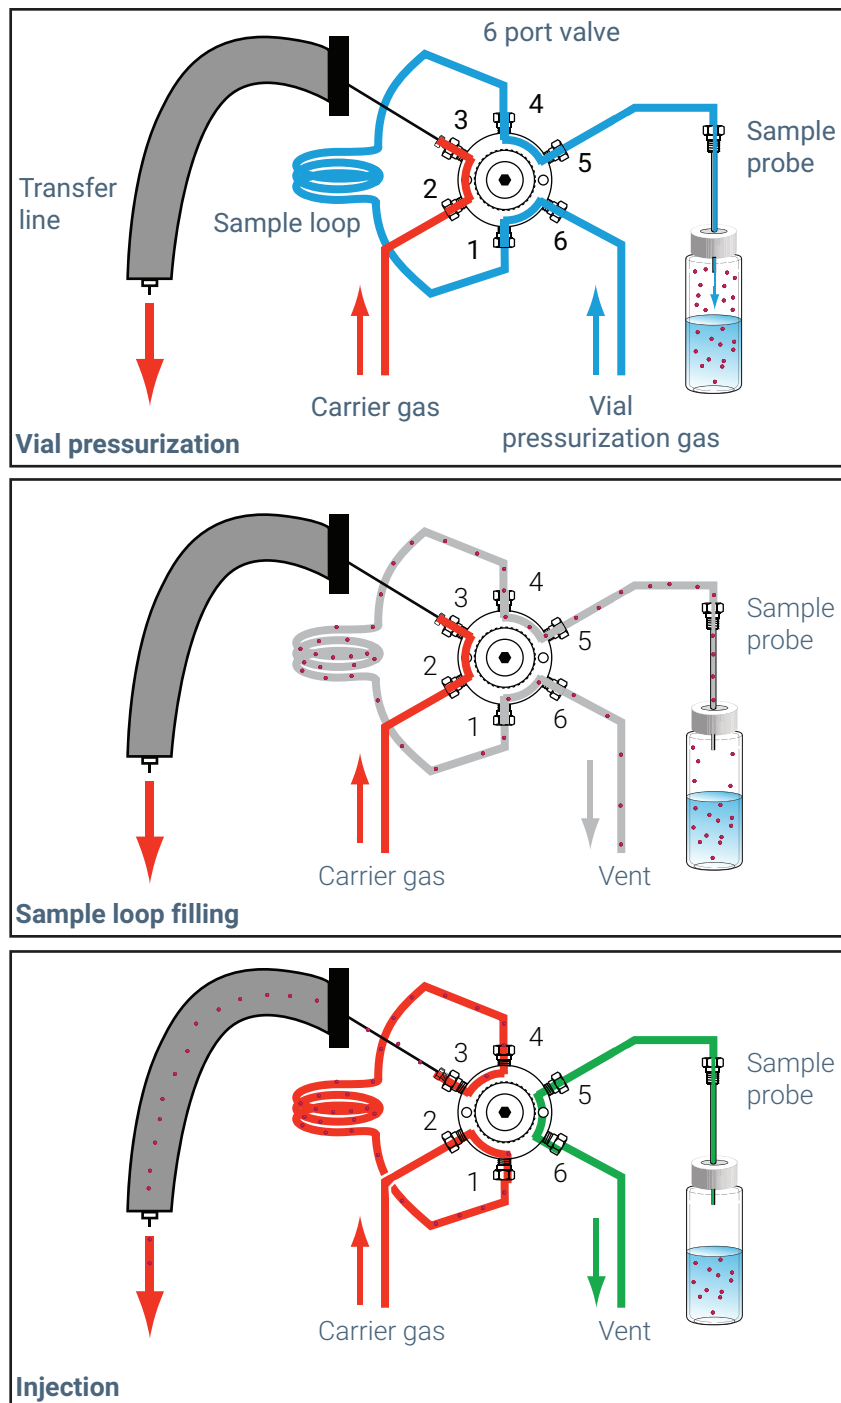

Figure 1. Valve and loop system sampling and injection stages
- 2 The sampler pressurizes the vial with gas. See **Figure 1**.